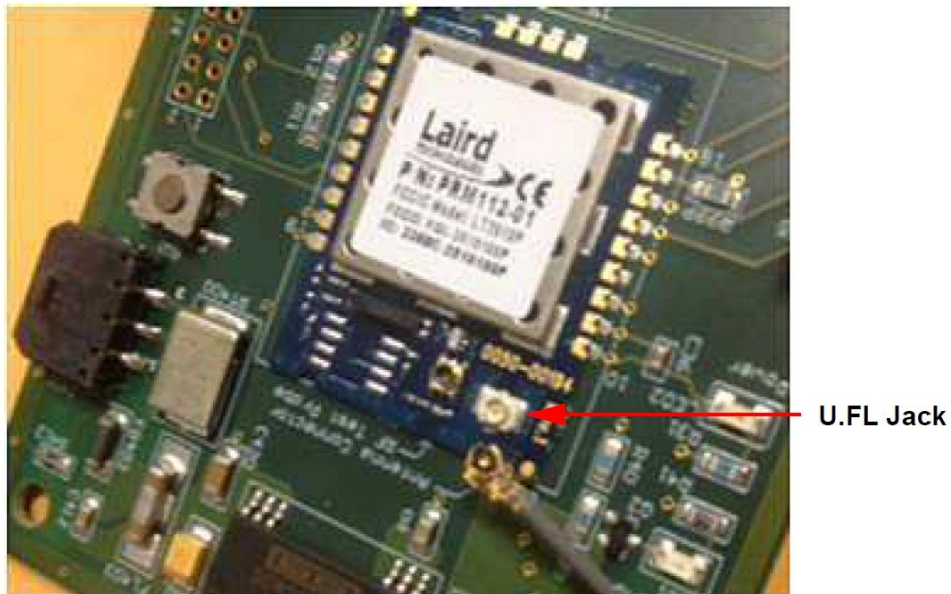

Figure 5: Antenna Connector
- 9) Connect the antenna cable to the U.FL (Color: silver) on the wireless base board (Figure 5: Antenna Connector). Carefully center the connector on the jack and press the connector onto the jack until it snaps into place. Rotate the antenna cable to ensure the connector is firmly seated in the jack.
- 12) Connect the RS-232 cable end labeled J300-1 to P300 on the wireless board using its two slotted screws (Figure 5: Antenna Connector).